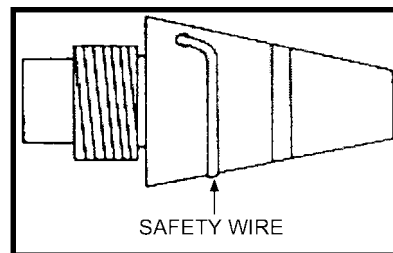

Figure 7-16. M935 PD fuze.
b. M935 PD Fuze (Figure 7-16).
- (1) Functions: Impact.
- (2) Settings: Superquick or 0.05-second delay action.
- (3) Remarks: The fuze has a safety wire.